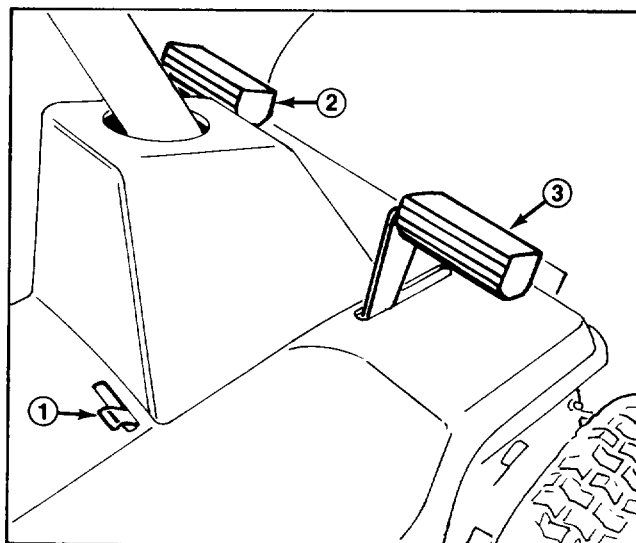

Figure 6
Clutch Pedal (Fig. 6) — Foot-operated clutch pedal is used in conjunction with gear shift. Depress clutch pedal fully when shifting gears, which moves idler pulley from traction drive belt and disengages power to wheels. Depress clutch pedal whenever brake is used.
Brake Pedal (Fig. 6) — Foot-operated brake pedal must be depressed to slow down or stop the rider. When pedal is depressed, a caliper engages the brake disc at side of transmission. Remember to depress clutch pedal when using brake.
Parking Brake (Fig. 6) — Parking brake must be used in conjunction with brake pedal. When pedal is depressed and end of parking brake lever holds pedal in depressed position, a caliper engages the brake disc at side of transmission.
Ignition Switch (Fig. 6) — Switch on electric start model has three positions ON, OFF and START. Switch on recoil model has two positions ON and OFF.
1. Engage the parking brake (Fig. 6): refer to Using Parking Brake, page 11.
1. Engage the parking brake (Fig. 6); refer to Using Parking Brake, page 11.
2. Move parking brake control to the left and release brake pedal until it contacts end of parking brake lever (Fig. 6).
3. To release the parking brake, depress brake pedal (Fig. 6), which will allow parking brake lever to return to its disengaged position. Then release brake pedal.